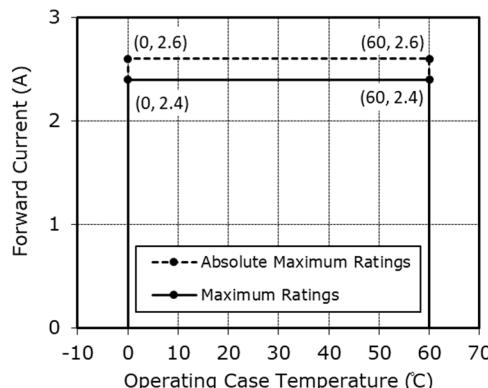

Figure 1. Derating Characteristics
¹ The absolute maximum ratings provided in Figure 1 should not be exceeded.
(1) Laser Hazard
(2) Storage
(3) Design Consideration
- Since the lifetime of the LD will become shorter as the operating current and/or the optical output power becomes larger, the maximum ratings provided in Figure 1 should not be exceeded.
- This LD is a semiconductor device that has a high current density during operation in the emission layer. Exceeding the Absolute Maximum Ratings may damage the LD. The circuit must be designed to ensure that the Absolute Maximum Ratings (see Absolute Maximum Ratings and Figure 1) are not exceeded even if the LDs are operated only for a short period of time.
(4) Handling Precautions